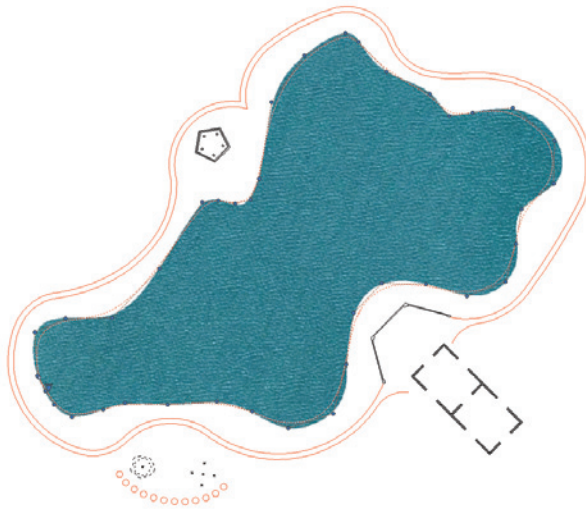

FIGURE 5.12 Drawing a rough CV spline around the lake
3. Continue clicking points all the way around the lake. When you get close to the first point, type **C** (for Close) and press Enter. Click the spline you just drew to reveal its CVs (see Figure 5.12).